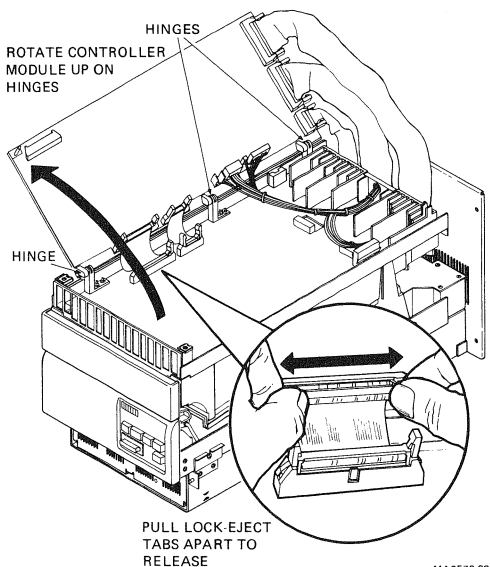

Figure 4-14 Removing the Controller Module
3. Rotate controller module up on its hinges to reach connecting plugs (Figure 4-14).